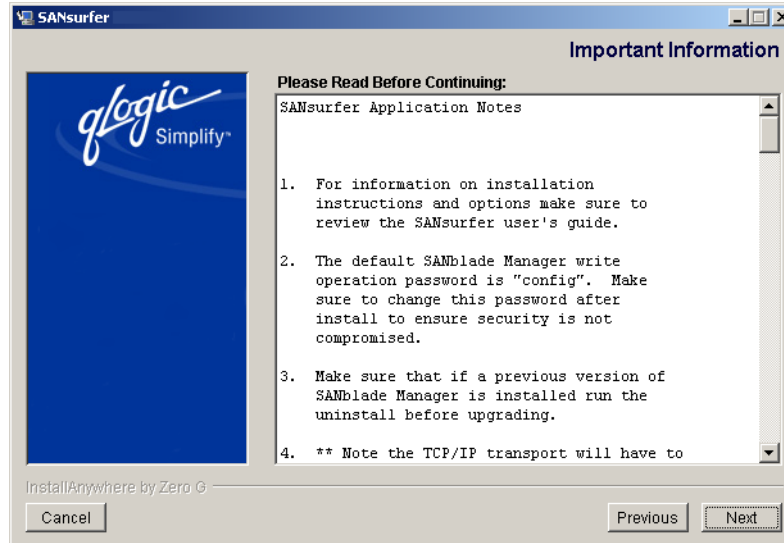

Figure 5-2. Important Information Dialog Box
3. The **Important Information** dialog box displays (see figure 5-2). Read the information, then click **Next**.